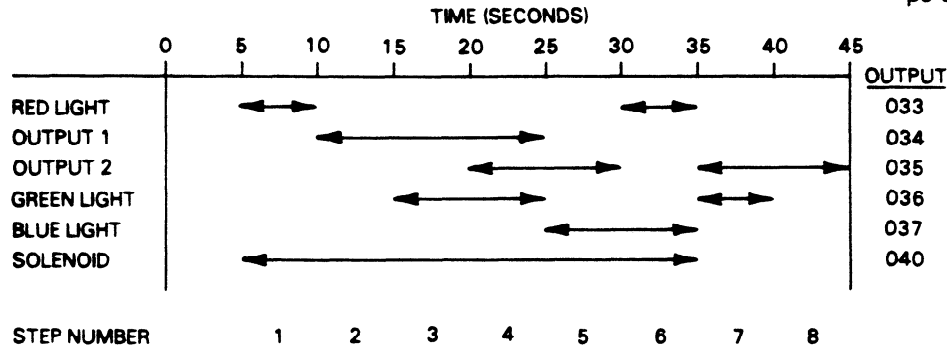
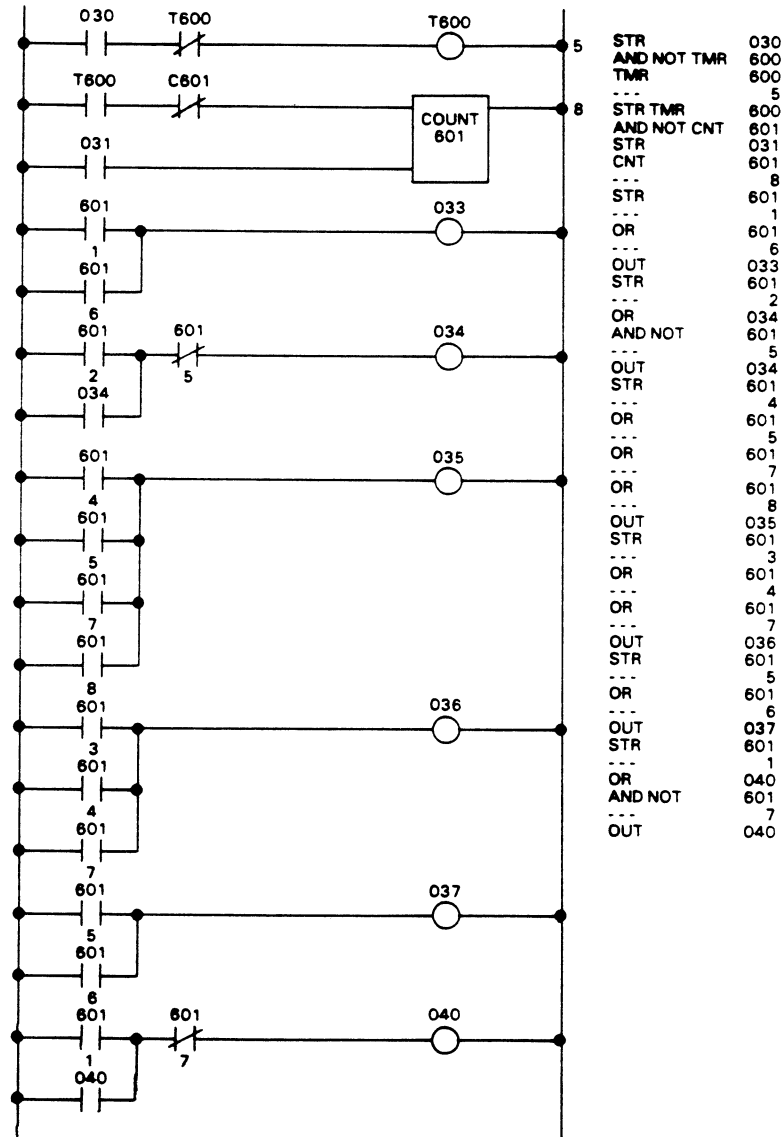

Figure 5-22. Example of Sequencer
Figure 5-23. Typical Sequencer Logic
To illustrate the capabilities of the sequencer, refer to the example in Figure 5.22. The sequence map in this example is in the form of a timing diagram that has an overall cycle of 45 seconds. This time is subdivided into increments of 5 seconds per the requirements of this application. There are six outputs to be controlled during the sequence with the desired ON periods shown by horizontal black lines. Outputs are assigned and step numbers (starting at zero) are entered for each time period. To drive the sequencer (Figure 5.23), a timer (600) is entered to reset itself each 5 seconds. Input 030 is used to control the sequencer, which will not be incremented except when this input is energized. When energized, timer 600 will produce one pulse every 5 seconds. Counter 601 increments its count once each pulse, thus stepping the sequencer. Input 031 will reset the sequencer to home (zero) whenever it is energized, regardless of the count or position of the sequencer. The counter will go up to eight and then stop waiting for a reset signal.